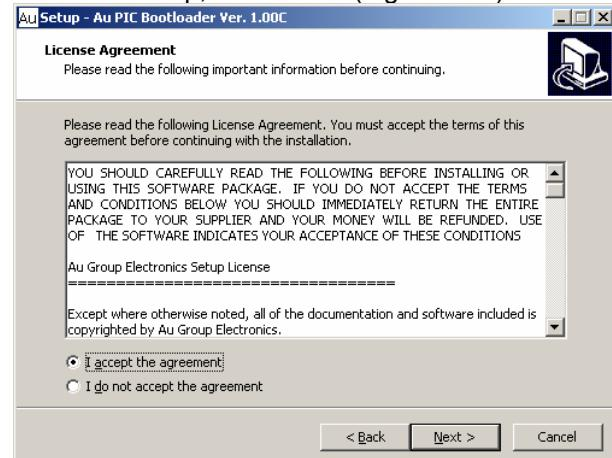

Figure C-3
- "License Agreement" window will show up. Read the license agreement and select "I accept the agreement", then click "Next" to continue (Figure C-3).